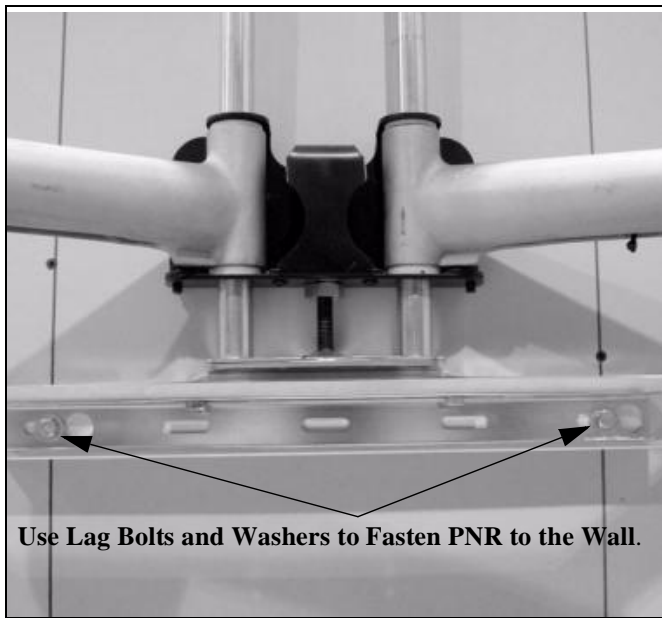

Figure 3
1. Mark the two mounting holes in the bottom mounting bracket (See figure 3). Make sure to align the holes parallel to the holes drilled in the top bracket.
3. Install two 5/16" x 2-1/2" lag bolts (50) and two 0.135" thick washers (60) through PNR Bottom Bracket into the lower pilot holes.